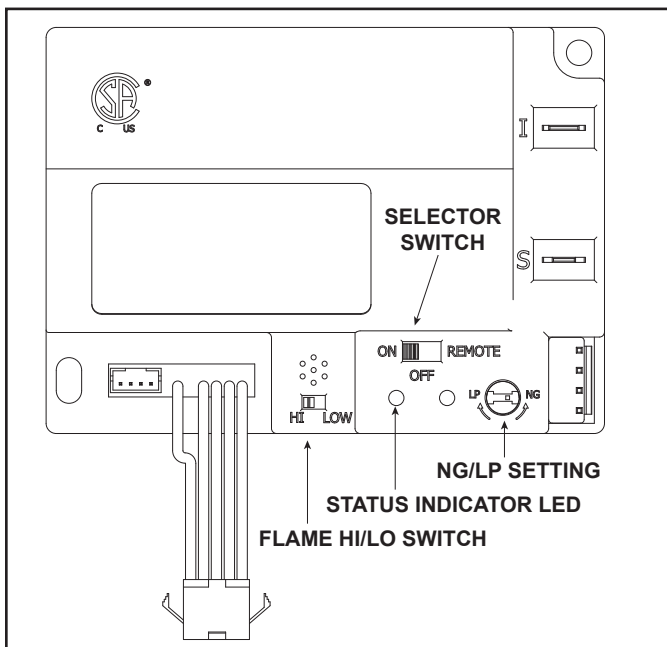

Figure 3.4 Control Module
1. The control module has an ON/OFF/REMOTE selector switch that must be set. See Figure 3.4.
- Locate the module selector switch. (See Figure 3.4).
- Wait five (5) minutes to allow possible accumulated gas to clear.